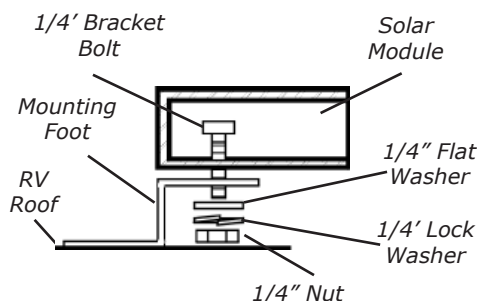

Figure 2
1. Assemble the mounting feet onto the ends of the solar module using the 1/4" bolts, washers and nuts as shown in **Figure 2**.